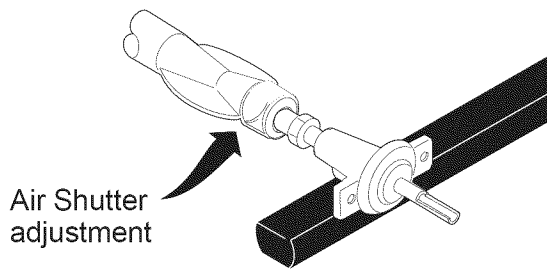

Fig. 5
The air shutter (adjustment) for each of the (4) top burners is located at the open end of the venturi tube and sets on the orifice of the valve. Should the air shutter need adjusting, rotate the air shutters to allow more or less air into the venturi burner tubes as needed (See Fig. 5).